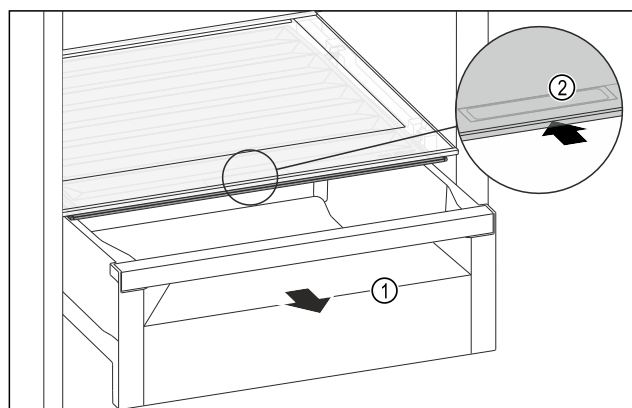

Fig. 99
- Pull out the drawer Fig. 99 (1).
- Grasp the recessed grip Fig. 99 (2) on the compartment lid and push the compartment lid backwards at the same time.